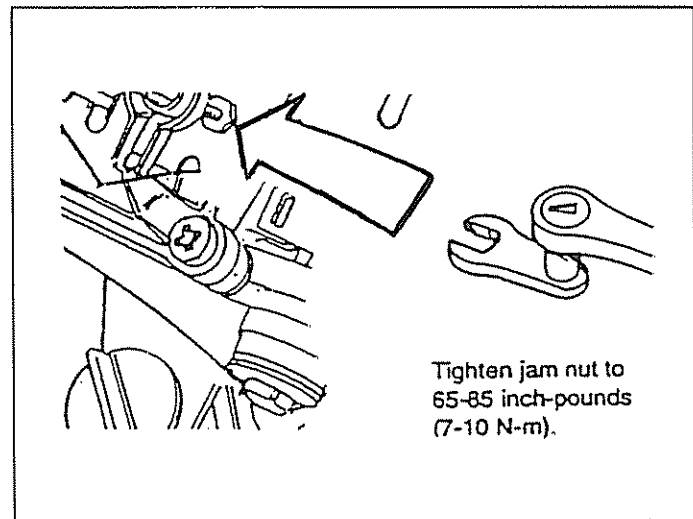

FIG. 28
- When valve clearance is correct, hold pivot ball stud with allen wrench and tighten rocker arm jam nut with crows foot. Tighten jam nut to 65-85 inch-pounds torque. After tightening jam nut, recheck valve clearance to make sure it did not change (Fig. 28).